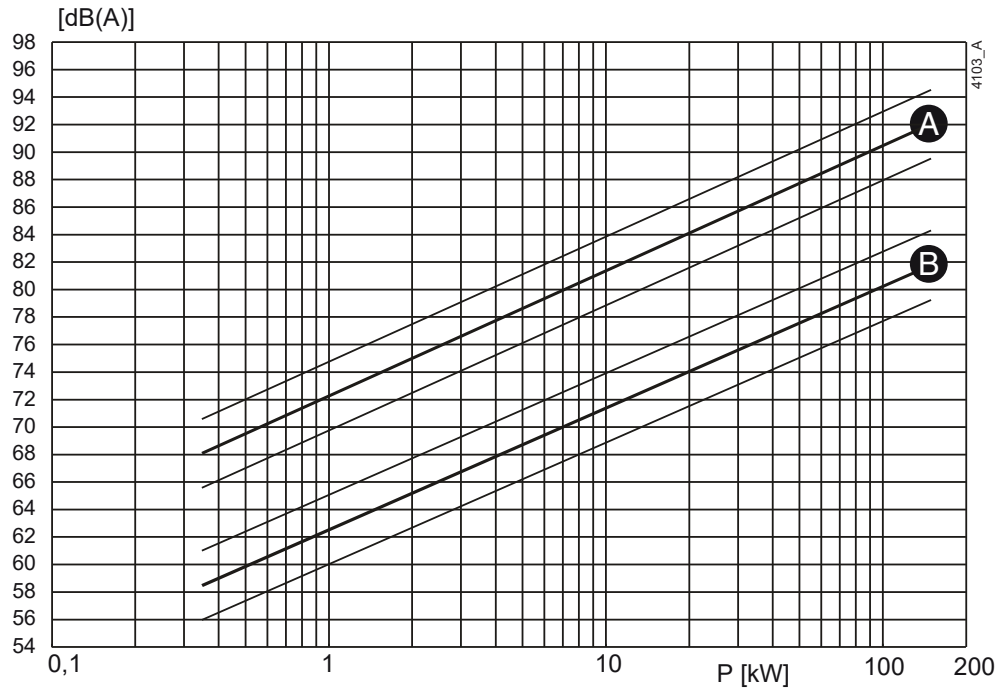
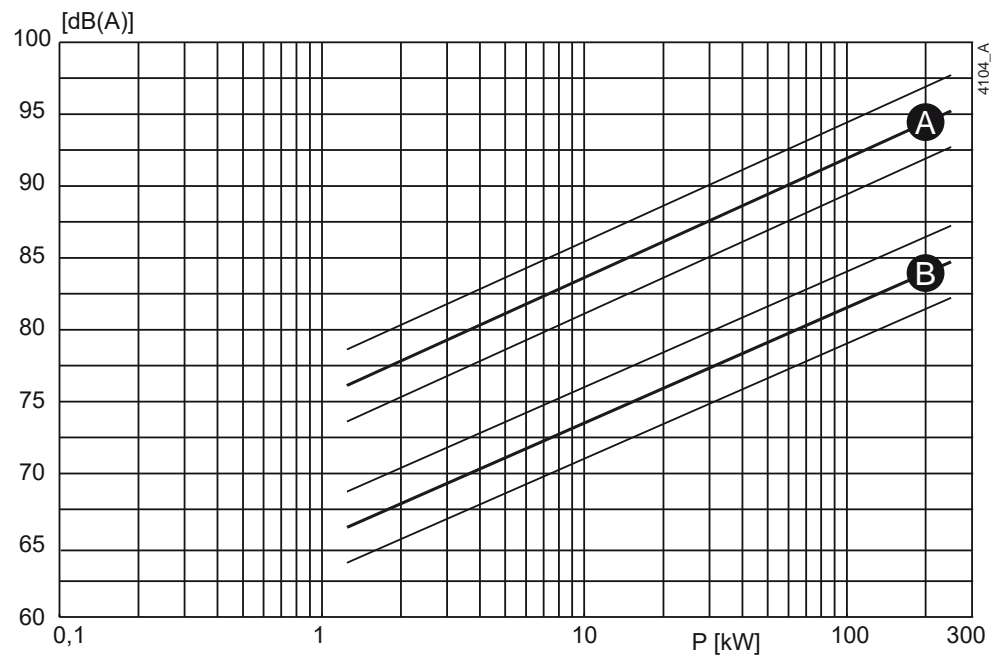

Figure 60: Noise level as function of pump power [kW] at 1450 min⁻¹
Figure 61: Noise level as function of pump power [kW] at 2900 min⁻¹
- 1 Determine the noise level (L1) of the pump, see figure 60 or figure 61.